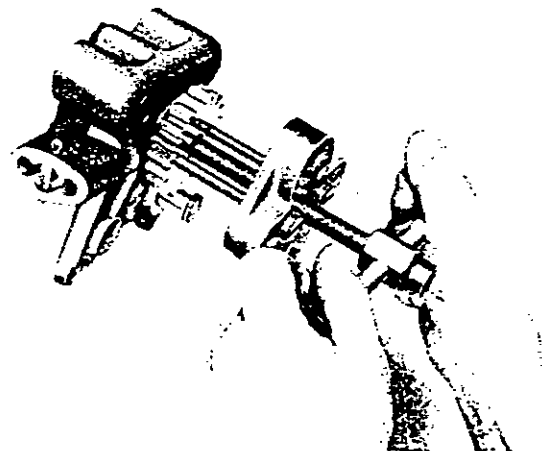

FIGURE 14
**DISMANTLING THE OIL PUMP (Refer Figures 14 and 15)**
- With the oil pump suitably held in a vice, remove the pump drive gear using Service Tool P.D.155 (Figure 14).